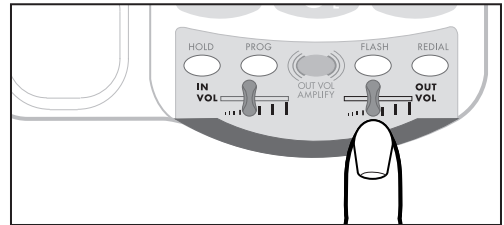

Figure 9 - Volume Slide Control
2. Adjust the outgoing speech volume by moving the **OUT VOL** slide control in Figure 9. The amplification gives you up to 18+dB of sound boost. Slide the control button to the right to amplify your voice. Ask the person you are calling if they can hear you. Continue to adjust volume until the other party can hear you.